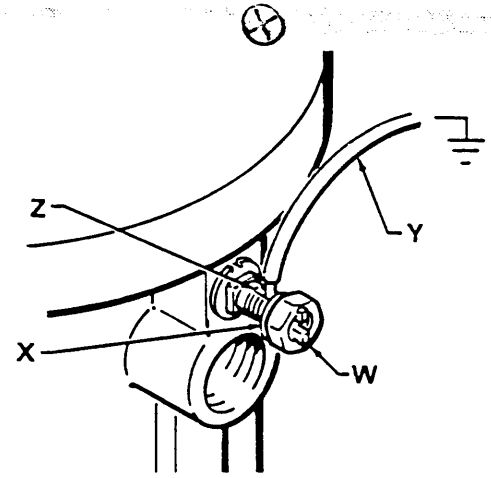

Fig 1
1. *Pump*: use a ground wire and clamp as shown in Fig 1.
To ground the pump, loosen the grounding lug locknut (W) and washer (X). Insert one end of a 12 ga. (1.5 mm2) minimum ground wire (Y) into the slot in lug (Z) and tighten locknut securely. See Fig. 1. Connect the other end of the wire to a true earth ground. Refer to page 17 to order a ground wire and clamp.